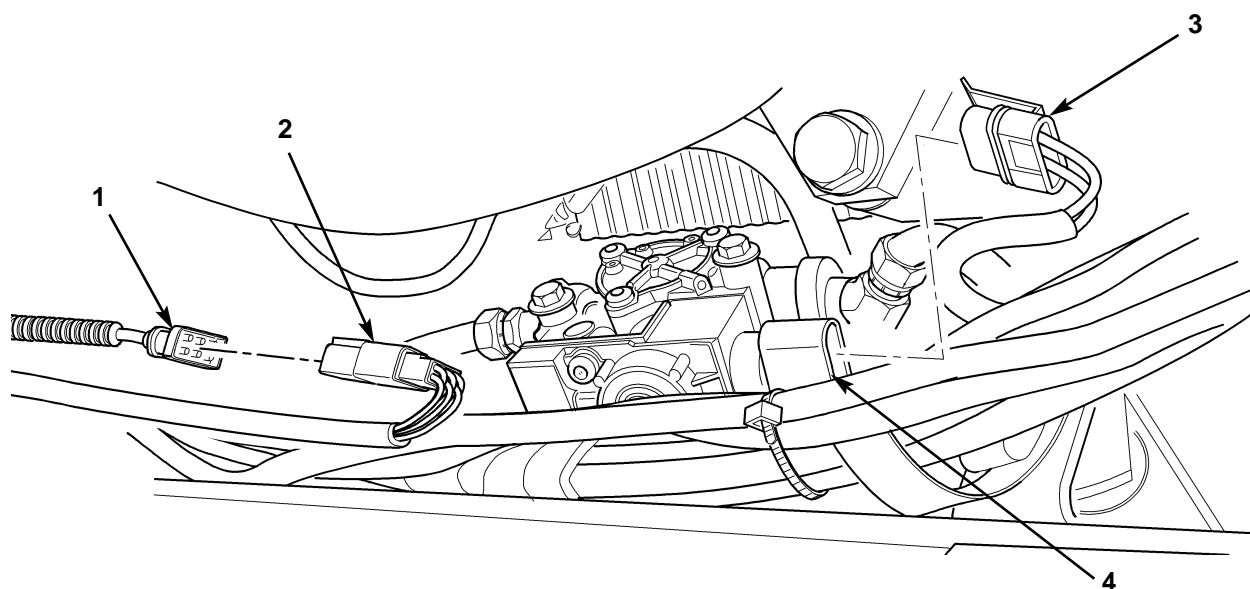

Figure 1. Disconnecting Front Wheel Sensor and Modulator Harnesses.
1. Disconnect left front wheel sensor cable plug (figure 1, item 1) from left front wheel sensor harness connector (figure 1, item 2).
2. Disconnect left front modulator harness plug (figure 1, item 3) from left front modulator receptacle (figure 1, item 4).